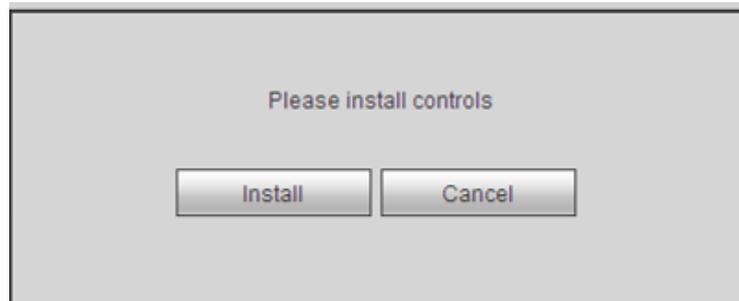

Figure 5-4
Step 1 Open IE and input DVR address in the address column. System pops up warning information to ask you whether install control or not. See Figure 5-4.